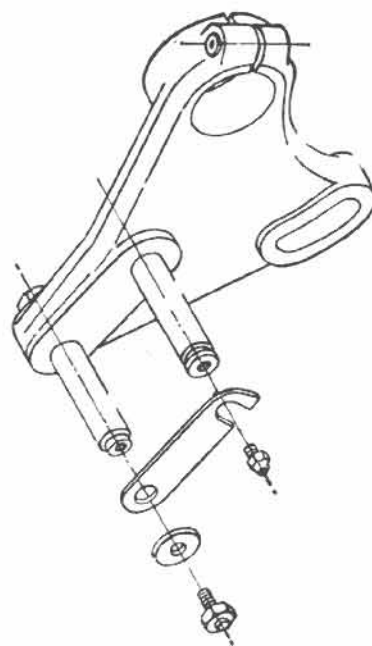

Fig. 2. Normal Quadrant.
N.B. When changing to the slotted quadrant (page 6 fig. 5) or back to the standard quadrant (page 3 fig. 2) it may be necessary to reset the anchor pin No. 203 (see page 15 paragraph 22) in order to line up the driven gear on the first stud with the driver on the tumbler stud.